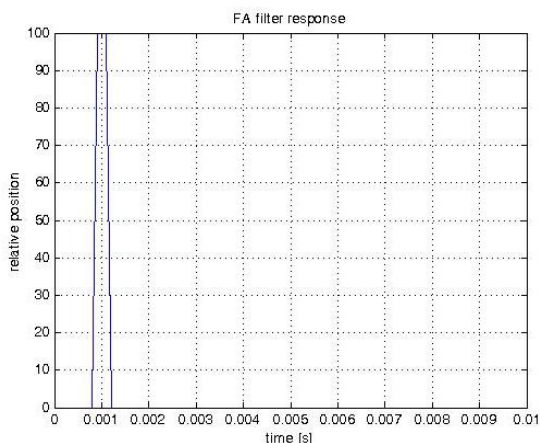

Figure 47: No filtering (setting 255)
- No filtering, setting 255, (Figure 47)